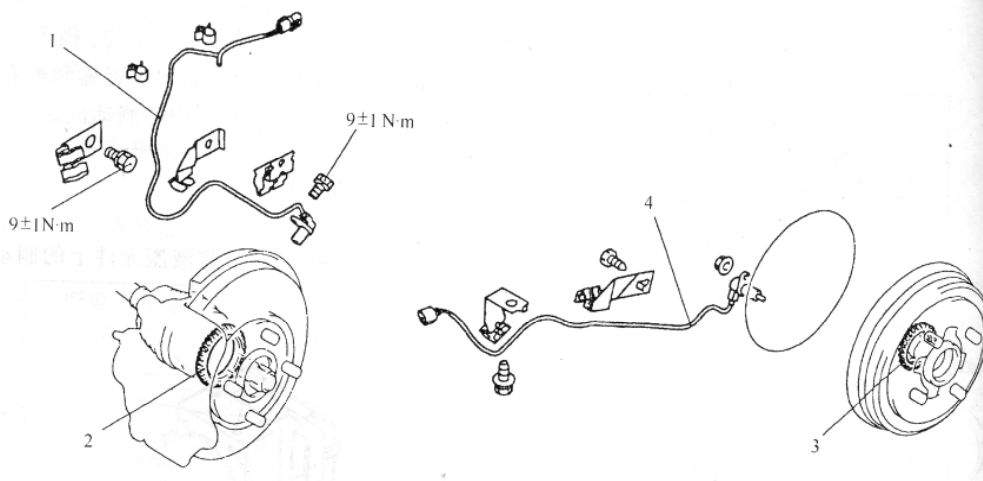

Fig. 16-64
1) Removal and Installation (see Fig. 16-64)